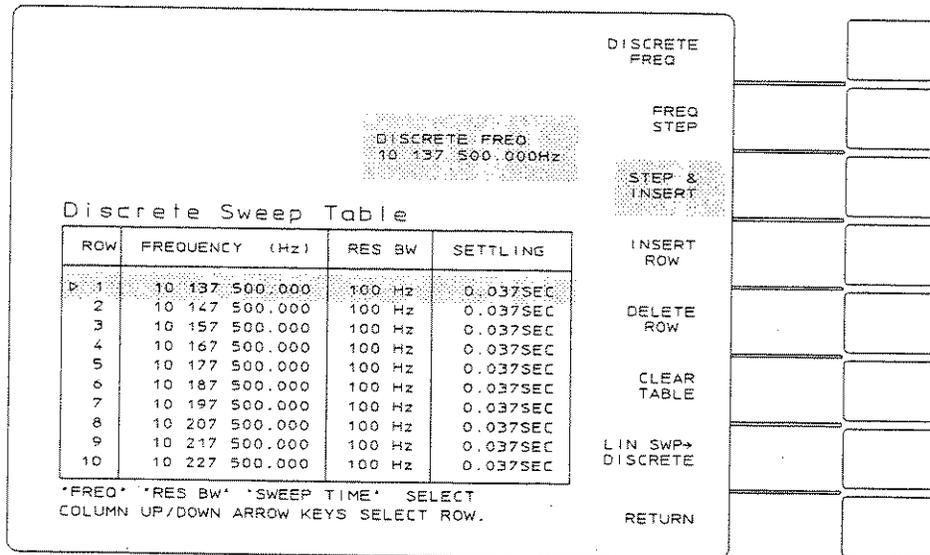

Figure 2-31A. Discrete Sweep Table with Entries
4. Press [ LIN SWP → DISCRETE ] and note the submenu that allows selection of the total number of frequencies or rows desired in the table. Press [ 11 POINTS ] and observe the additional frequencies in the table as in figure 2-31A.